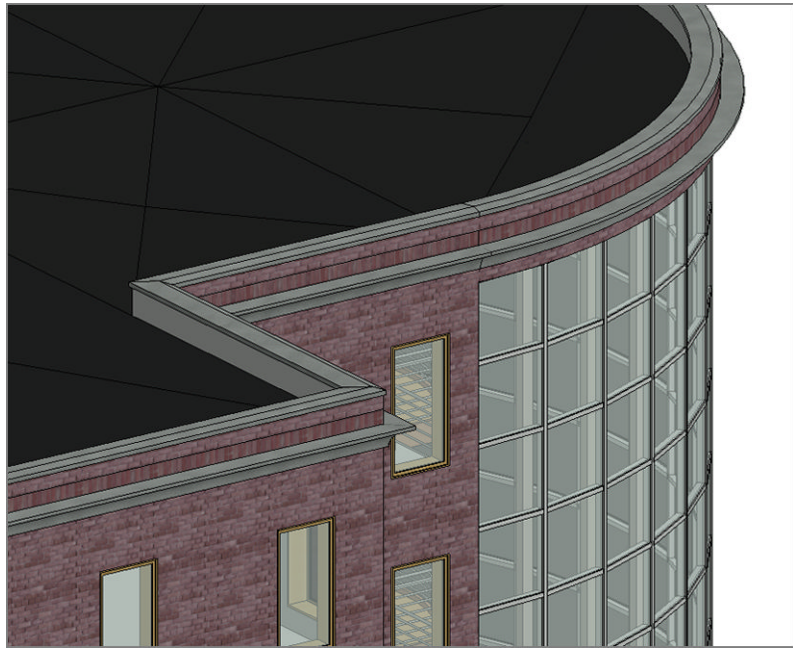

FIGURE 17.12: The new precast concrete wall sweep
16. Zoom in on the walls. There should be a sweep, as shown in Figure 17.12.